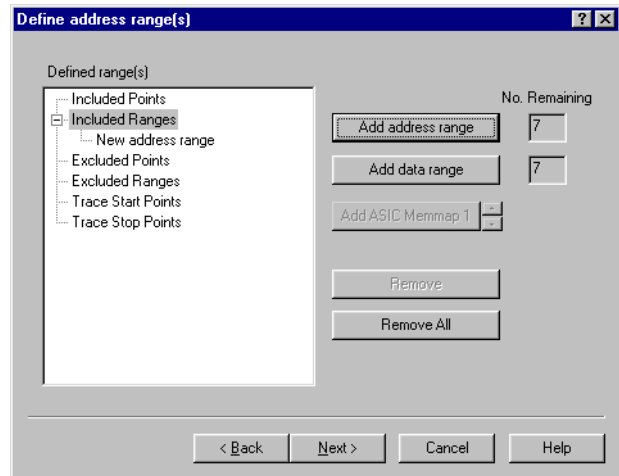

Figure 8-29 Defined Address range(s) dialog box
4. Click on **Next>**. The Defined address range(s) dialog box shown in Figure 8-29 is displayed.